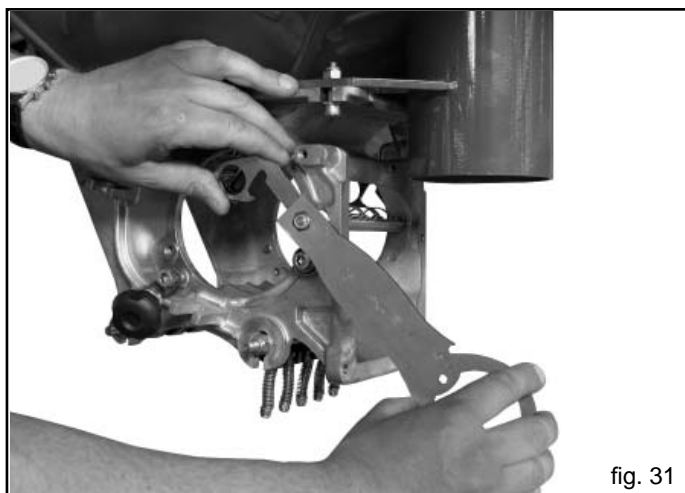

fig. 31
- 3) Loosen the M8 nuts (Fig. 31) using the supplied multi-purpose wrench.